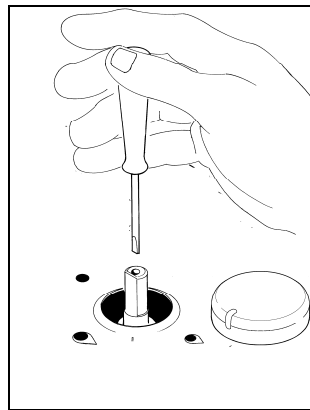

fig.7
- 2) Remove the knob (Fig. 7) of the tap which is set for standard pressure. The knob is found on the bar of the tap itself.
- 3) Beside the tap bar on the work top, insert a small slotted screwdriver into the hole on the valve rod (Fig. 7) and turn the choke screw to the right or left until the flame of the burner is regulated in the most suitable way to MINIMUM.